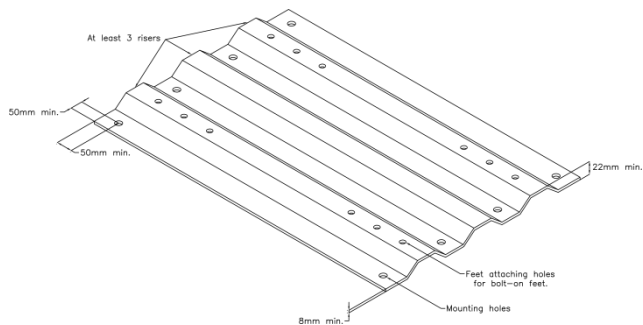

Figure 9: Ripple plate requirements
- Ripple base plate, ensure it is at least 8 mm thick and has the dimensions shown in Figure 9, or as recommended by the manufacturer provided equivalent mounting strength/security is maintained.